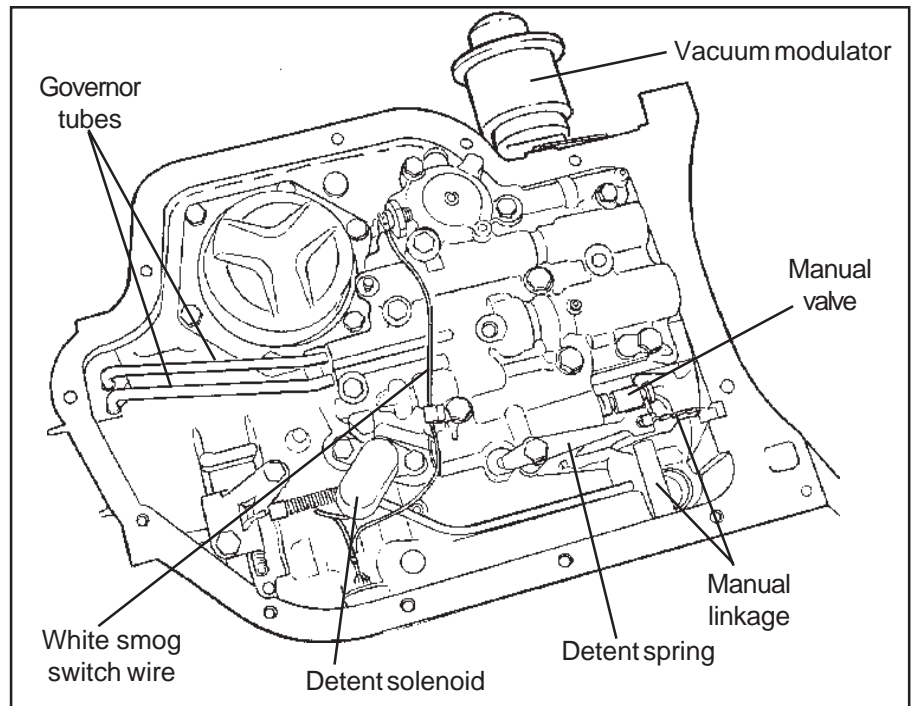

Figure 4
following (See Fig. 4) Manual linkage, detent spring with roller and the way the internal shift lever pin engages the manual valve in the valve body, governor tubes and their routing, detent solenoid (oval or square can) and its wire connector, white spark control switch wire and routing of the wire.
**STEP 13.** Install all the valve body bolts **finger tight**. Make sure the detent spring is in position and riding on the internal shift lever (**See fig. 4**). Make sure the manual valve is engaged with the internal shift lever pin. Tighten all valve body and solenoid bolts to 8-10 lb.ft. (11-13.6 Nm). Route the white spark control wire and connect to pressure switch on valve body. Check operation of manual valve by running range selector through all gear positions.